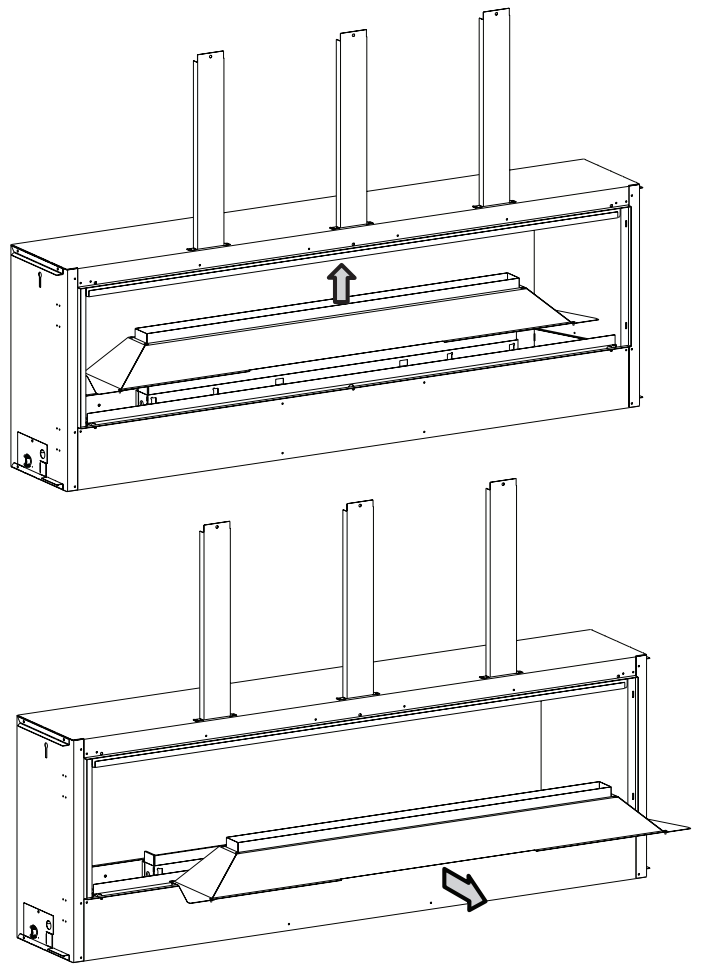

Figure 4
4. Remove the reflective burner cover assembly by lifting it up and out. Set aside. **See Figure 4.**
13. Reinstall the reflective burner cover assembly removed in Step 4. See Figure 4.